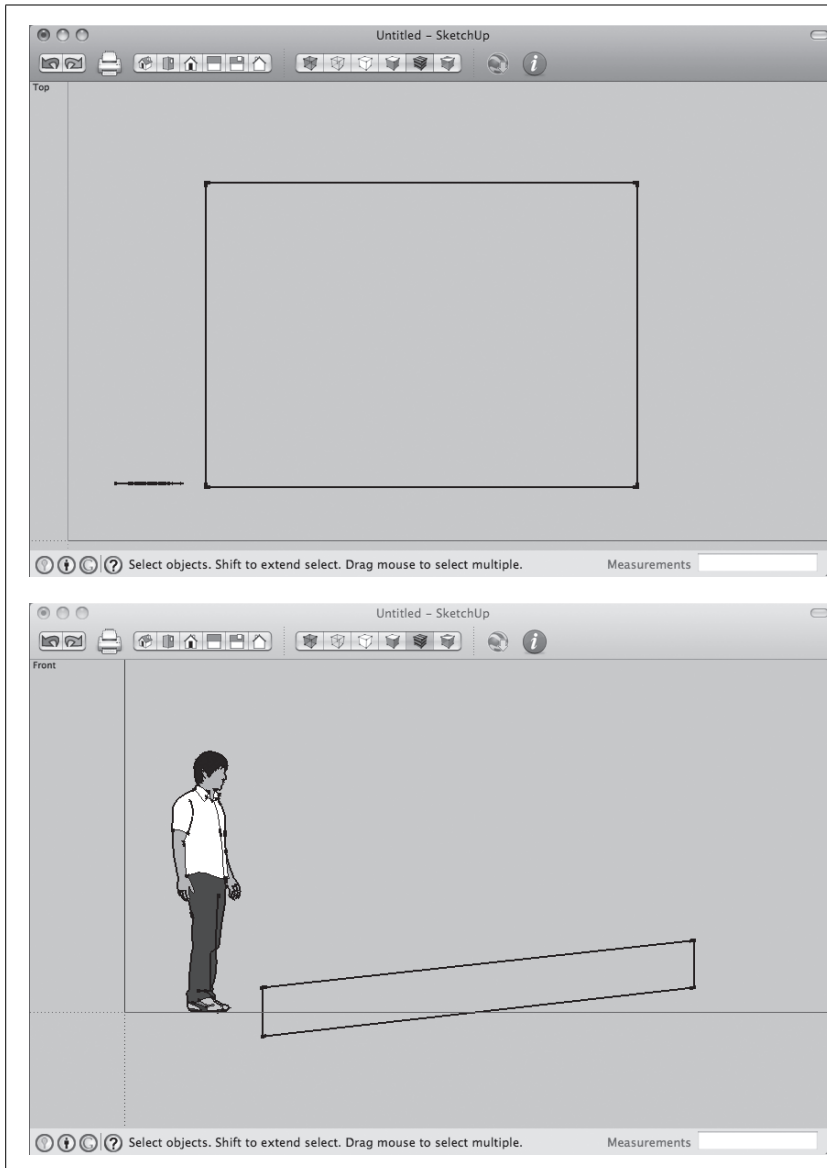

Figure 2-4:
- Second, the endpoints for those edges must be on the same plane. Figure 2-4 shows what happens when one of the endpoints isn't on the same plane.